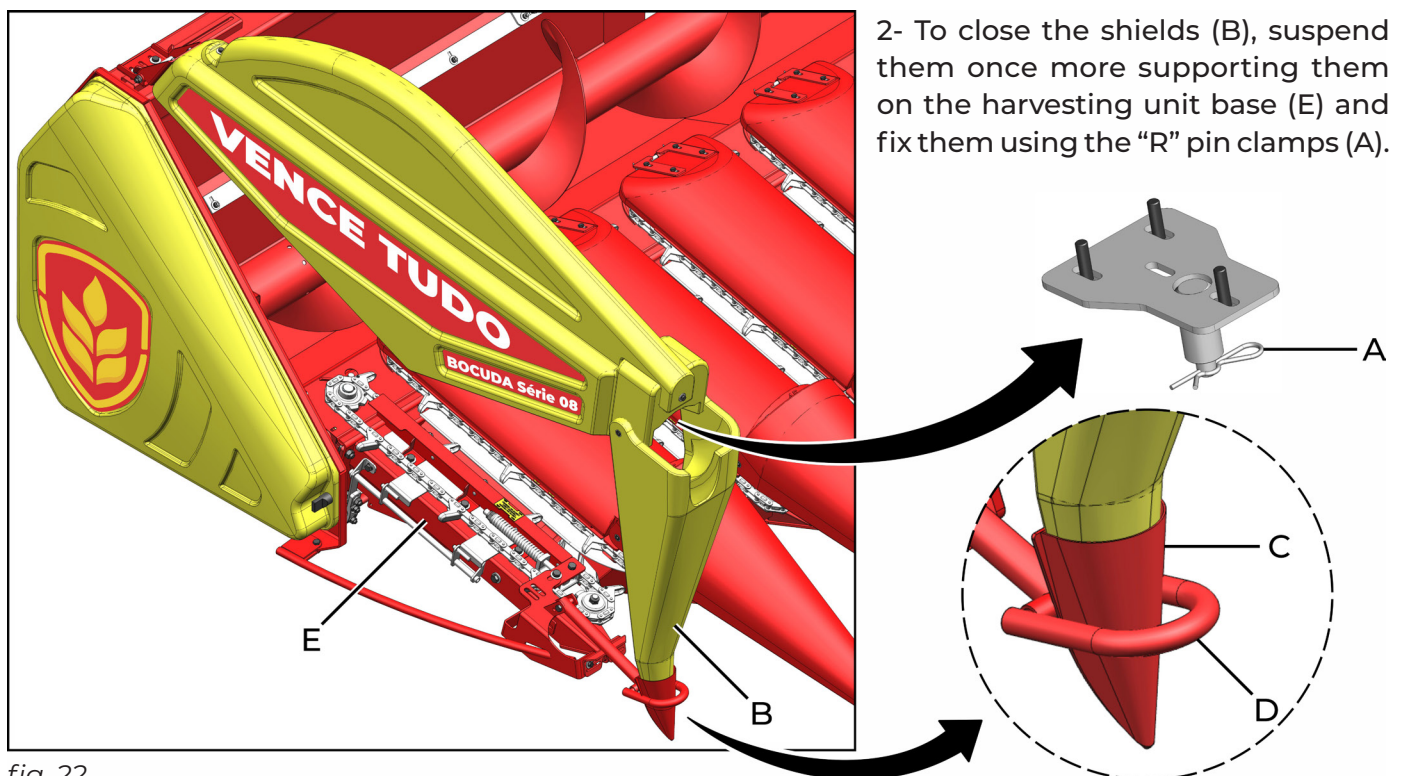

fig. 22
1- Remove the "R" pin clamp (A) (*fig. 22 and 23*), suspend the shields (B) (*fig. 22*), support the tip (C) on the tip bracket (D);